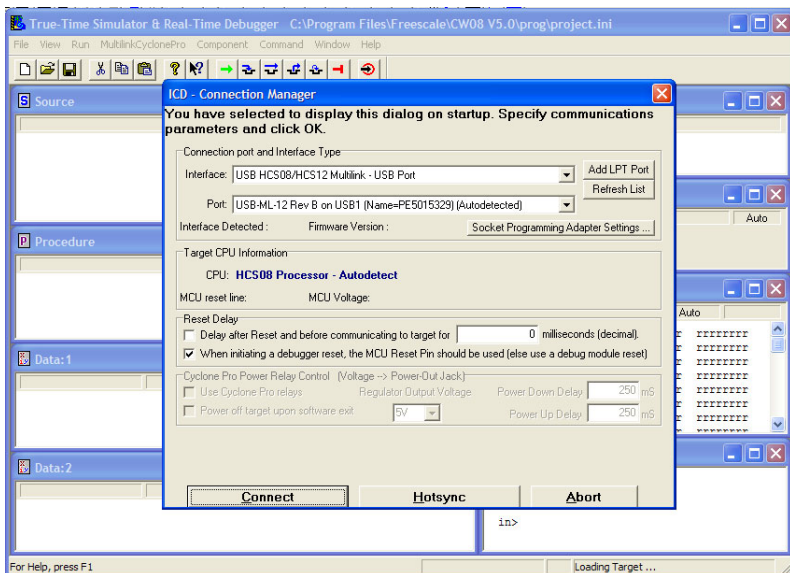

Figure 5. Establishing Communication Between the BDM and the Board
1. Launch HiWave. The HiWave main window appears as shown in Figure 5.